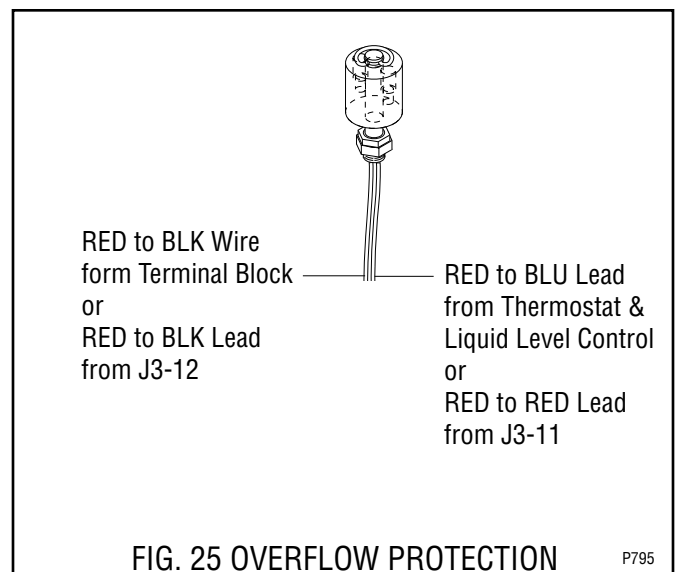

FIG. 25 OVERFLOW PROTECTION SWITCH TERMINALS
6. Refer to Fig. 25 when reconnecting wires.